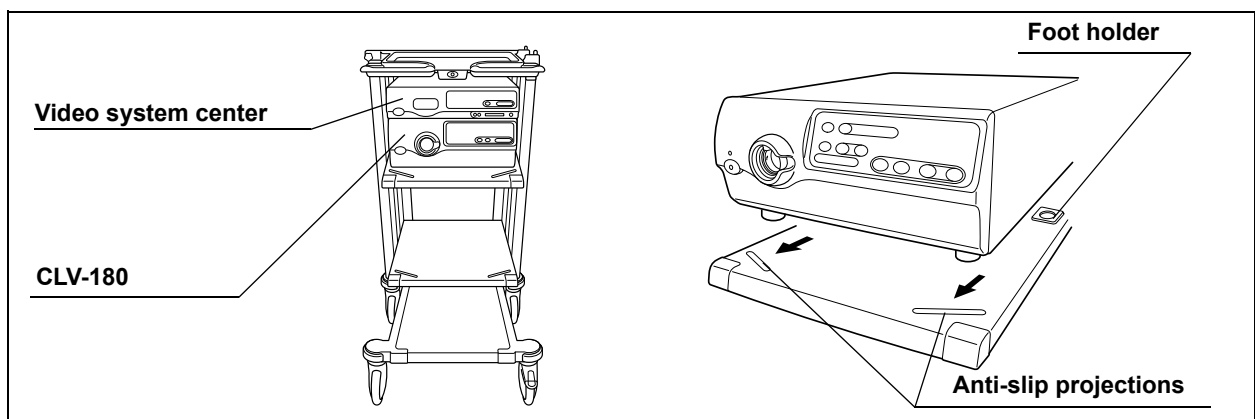

Figure 7.3
3. Align the two front feet of the light source with the anti-slip projections on the mobile shelf of the mobile workstation (see Figure 7.3).
4. Peel the paper from the bottom of the two provided foot holders. Place the foot holders to the two corresponding positions on the rear and attach them lightly (see Figure 7.3).